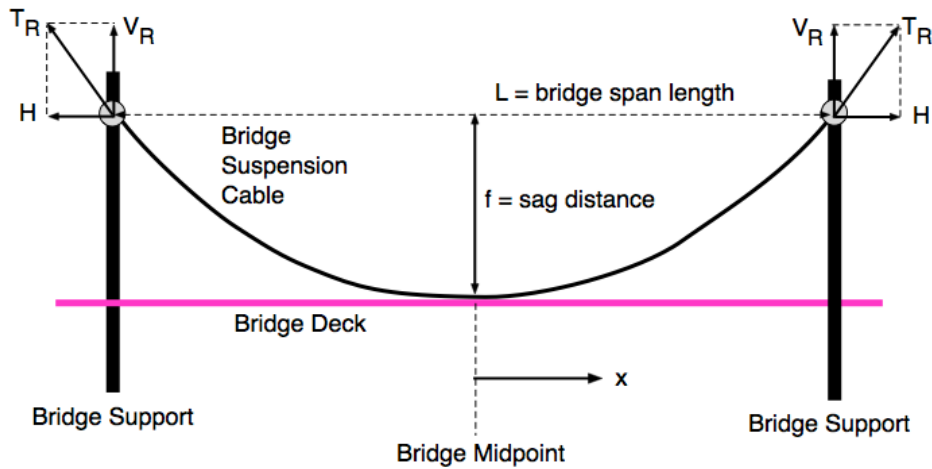

Figure 2. Suspension Bridge Geometry and Forces.
A civil engineer wants to calculate the forces acting in a suspension bridge. Figure 2 shows the geometry of the suspension bridge including the basic forces acting on the bridge support points.
where: x is the horizontal distance (in meters) measured from the midspan point ($x=0$) to any station along the bridge as shown in Figure 2. For a given length of the suspension cable (l), the length of the bridge span between supports (L) can be calculated using the following equation.